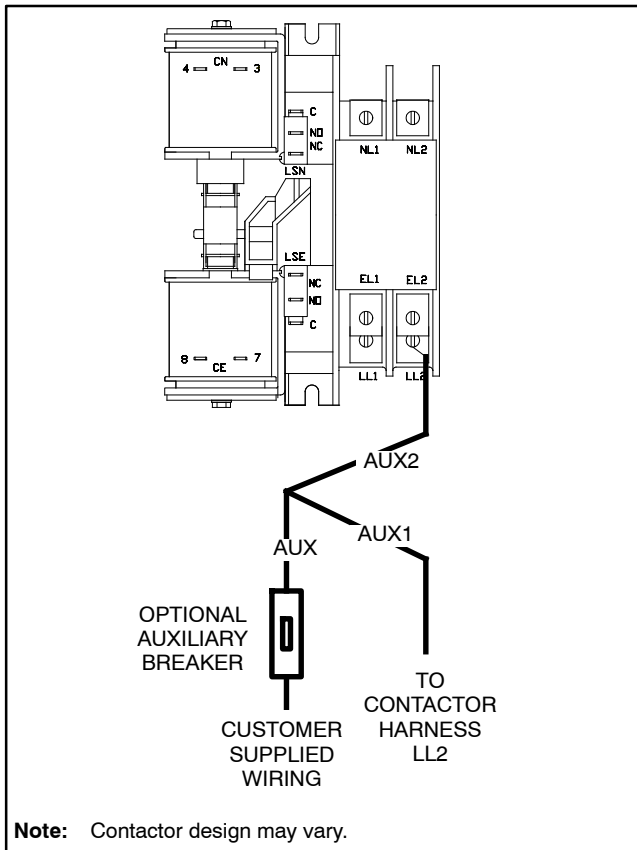

Figure 12 Auxiliary Breaker Connection, Harness GM104559 or GM116677 (100- 200 A and 300- 400ASEQS3 Models)
1. Disconnect lead LL2 from the contactor voltage sensing connection. Connect lead LL2 to the AUX1 lead of the harness. See Figure 12.